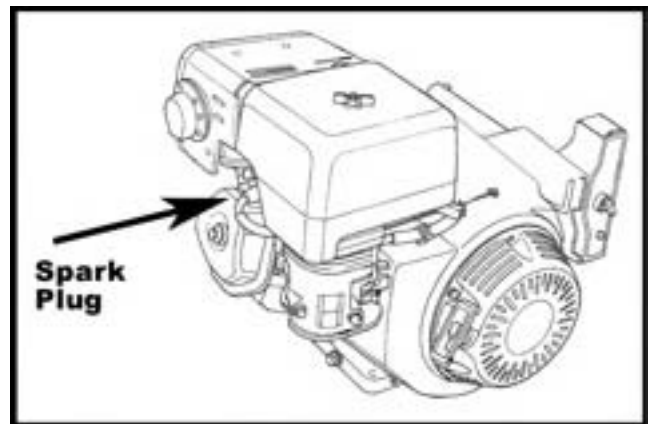

figure 6.1
3. Next, remove the wire connected to the spark plug. And remove the spark plug from the engine. (See Figure 6-1) (Spark Plug Wrench supplied with Operator's Manual)